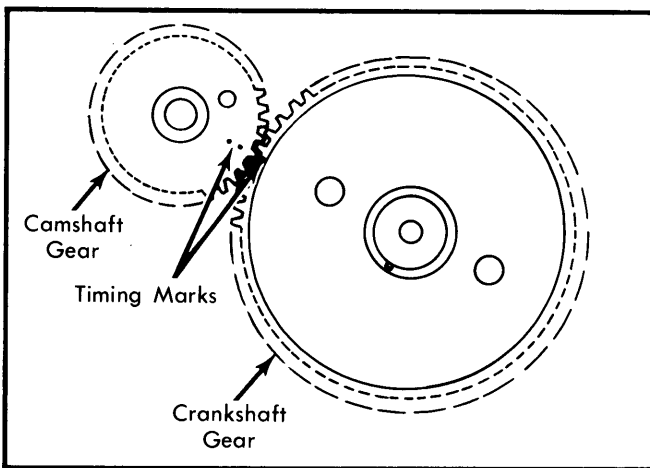

Fig. 9 Timing Gear Alignment
2) Carefully insert camshaft assembly into engine block. Rotate camshaft and crankshaft to align valve timing marks on gear teeth. See Fig. 9.